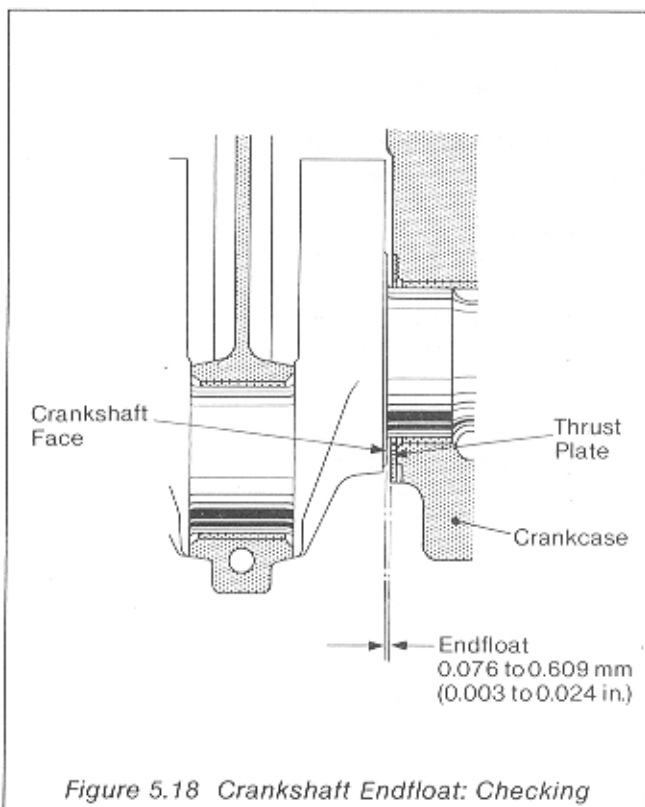

Figure 5.18 Crankshaft Endfloat: Checking
- (6) Check the crankshaft endfloat (Figure 5.18) by using a feeler inserted between the thrust washer face and the crankshaft. The endfloat should be between 0.076 to 0.609 mm (0.003 to 0.024 in.).